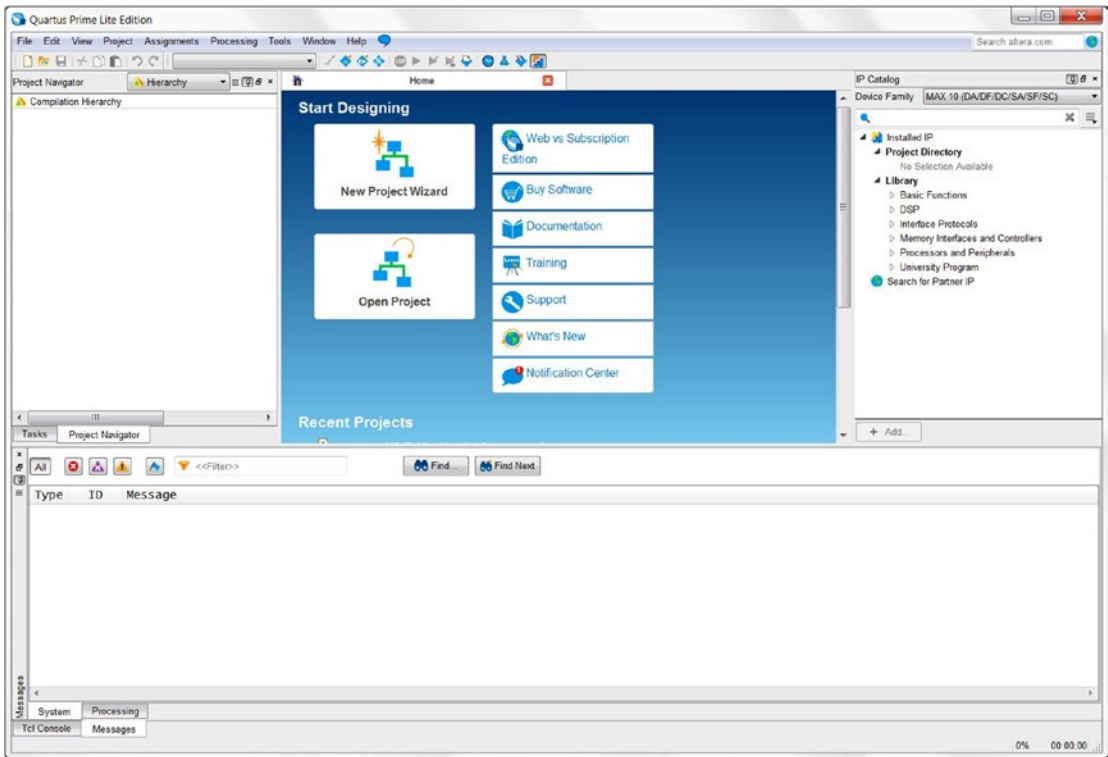

Figure 4-1. Quartus Prime Lite Edition
1. Click **Start** ► **All Programs** ► **Altera 15.1.x.xxx Lite Edition** ► **Quartus Prime Lite Edition 15.1.x.xxx** ► **Quartus Prime 15.1**, or click the shortcut on your desktop. The Quartus Prime Lite Edition will open. The first time you open Quartus Prime, it look like Figure 4-1.